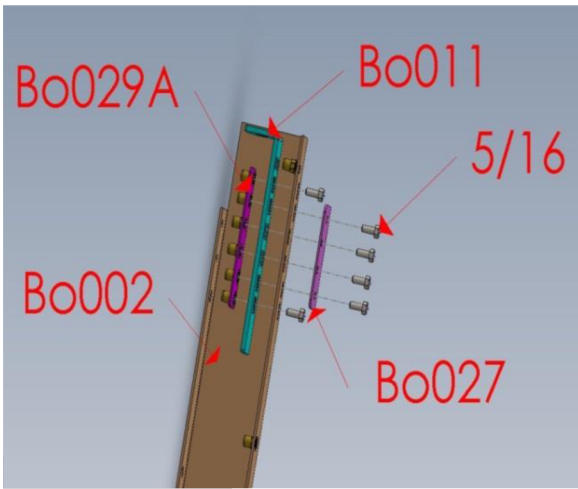

Figure 22
21) Install parts BO-029A, BO-0011, BO-027 and hinge on both sides of the oven. Make sure not to tighten bolts so the door can be adjusted. *See figures 22 - 25.*